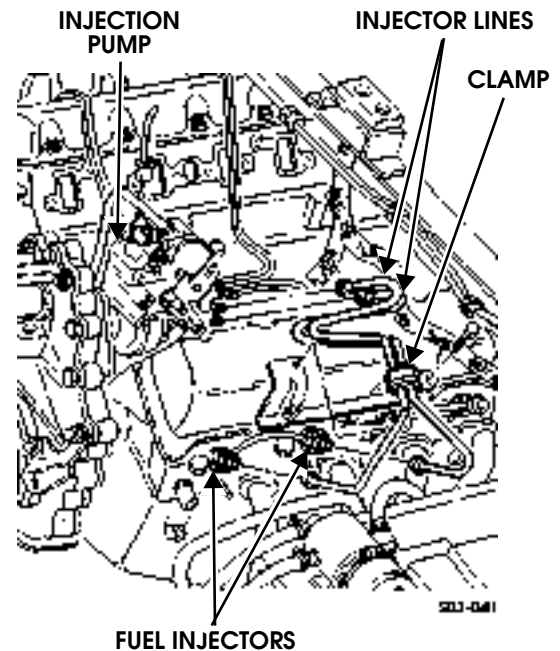

Figure 3-54: Fuel Injection Line Routing (Typical)
2. Disconnect injection lines at injectors (Figure 3-54).
1. Install clamps on injection lines (Figure 3-54).